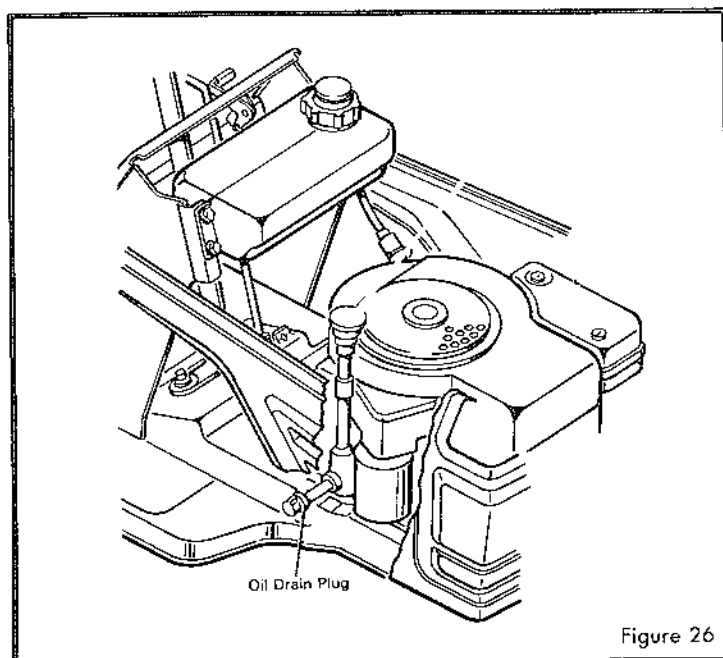

Figure 26
5. CHANGER L'HUILE DU MOTEUR figure 26